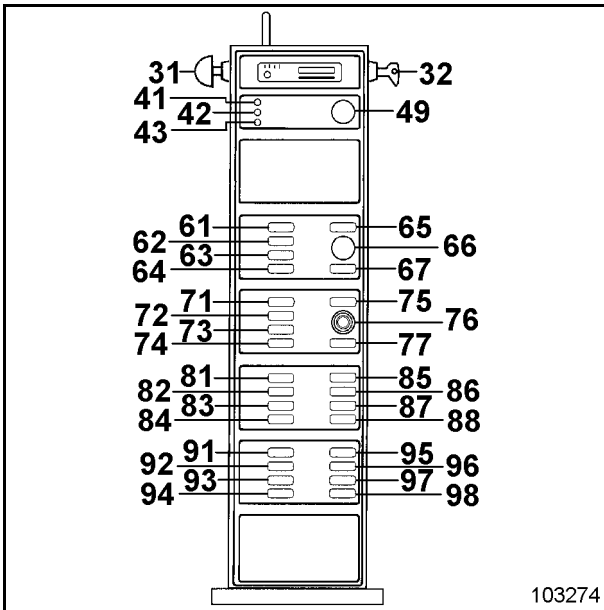
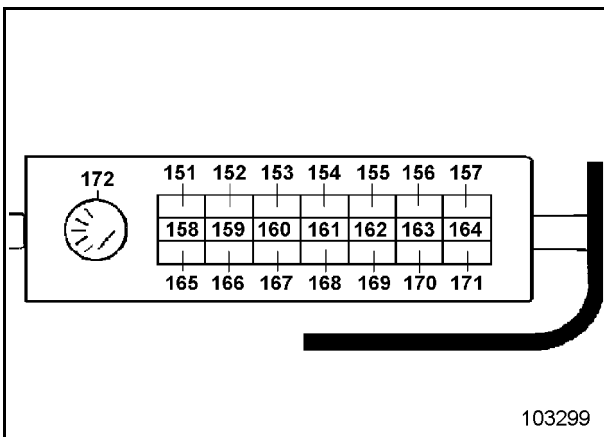

Fig. 3-96
Fig. 3-97
After switching on the electrical system with key-switch (32, Fig. 3-96) the monitoring and warning lamps (165, 166, 167 and 168 Fig. 3-97) light up. After starting of the engine, the central greasing system is activated.
The greasing points connected are greased in regular intervals. During greasing time, monitoring lamp (165, Fig. 3-97) is lit up.
In the event of malfunctions, warning lamp (166, Fig. 3-97) flashes for 15 minutes. Thereafter, warning lamp (166) remains permanently on. The backhoe and the bucket tipping cylinder are then shut off.